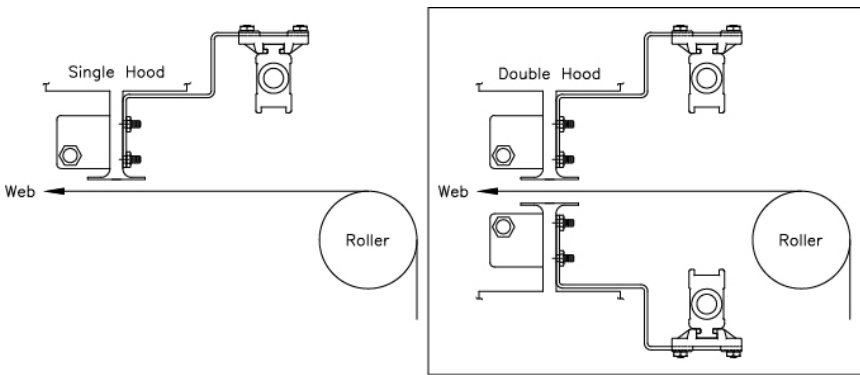

Figure 3: Hood Locating
- Web must be in free air near static bar for the static eliminator to work (see Figure 3).
See Figure 3 to determine how to locate the hood so the web passes in the correct direction. If your hood is not configured for proper installation, switch the accessories: